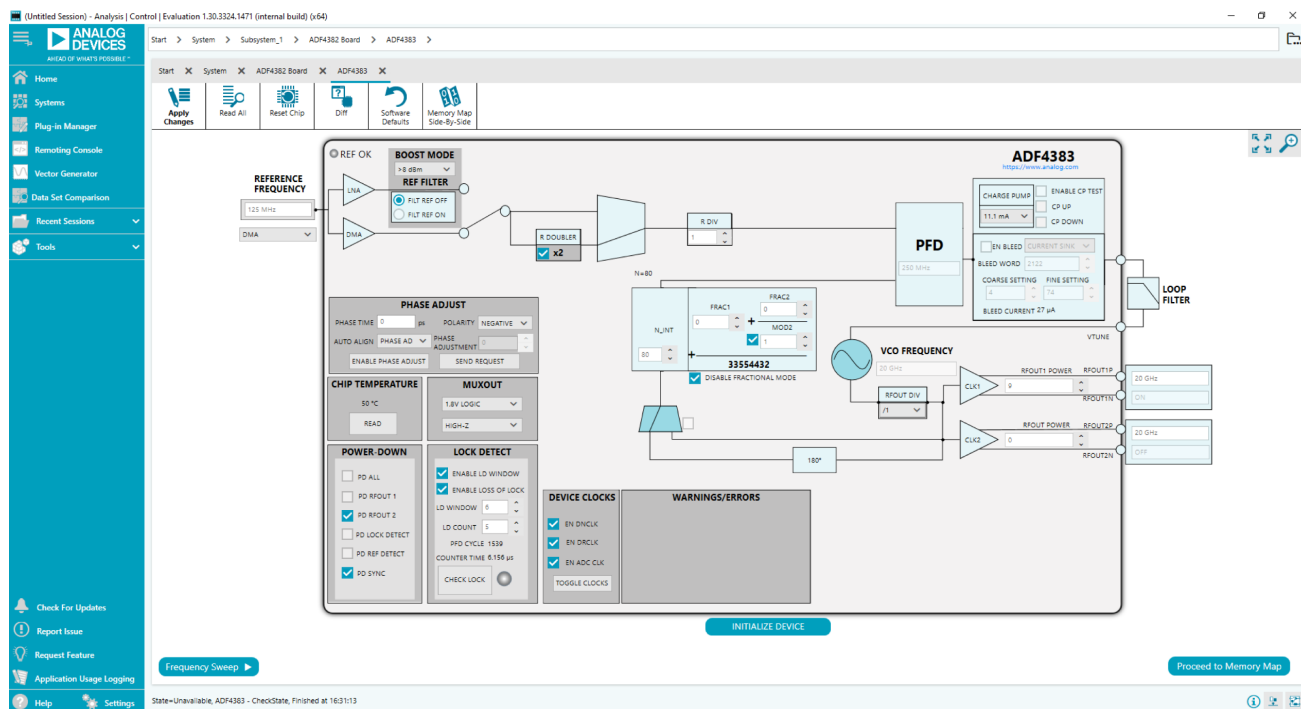

Figure 5. Front Panel
The output power of the clock output channels can be adjusted via the **ACE Software** individually using the **RFOUT1 POWER** and **RFOUT POWER** numeric selectors (see Figure 5).
The clock output channels can be powered down separately via the **ACE Software** or by hardware using the **PD RFOUT 1** and **PD RFOUT 2** check boxes (see Figure 5).
3. Double-click the **ADF4383** icon that appears on the board GUI to open the main control window shown in Figure 5.
The main controls are available in the high level register map shown in Figure 5. To modify registers, perform the following steps:
2. Click **INITIALIZE DEVICE** to write to all of the registers and to initialize the device (see Figure 5).
If the RFOUT frequency selected is outside of the operational range, an error message appears within the **WARNINGS/ERRORS** section (see Figure 5).
Specific blocks can be powered down by setting the corresponding power-down check box within the **POWER-DOWN** section shown in Figure 5.
The RFOUT phase can be controlled within the **PHASE ADJUST** section in the **ACE Software** (see Figure 5). To adjust the phase, perform the following steps:
Run the software and follow the steps given in Evaluation Board Software section to open the main controls shown in Figure 5.